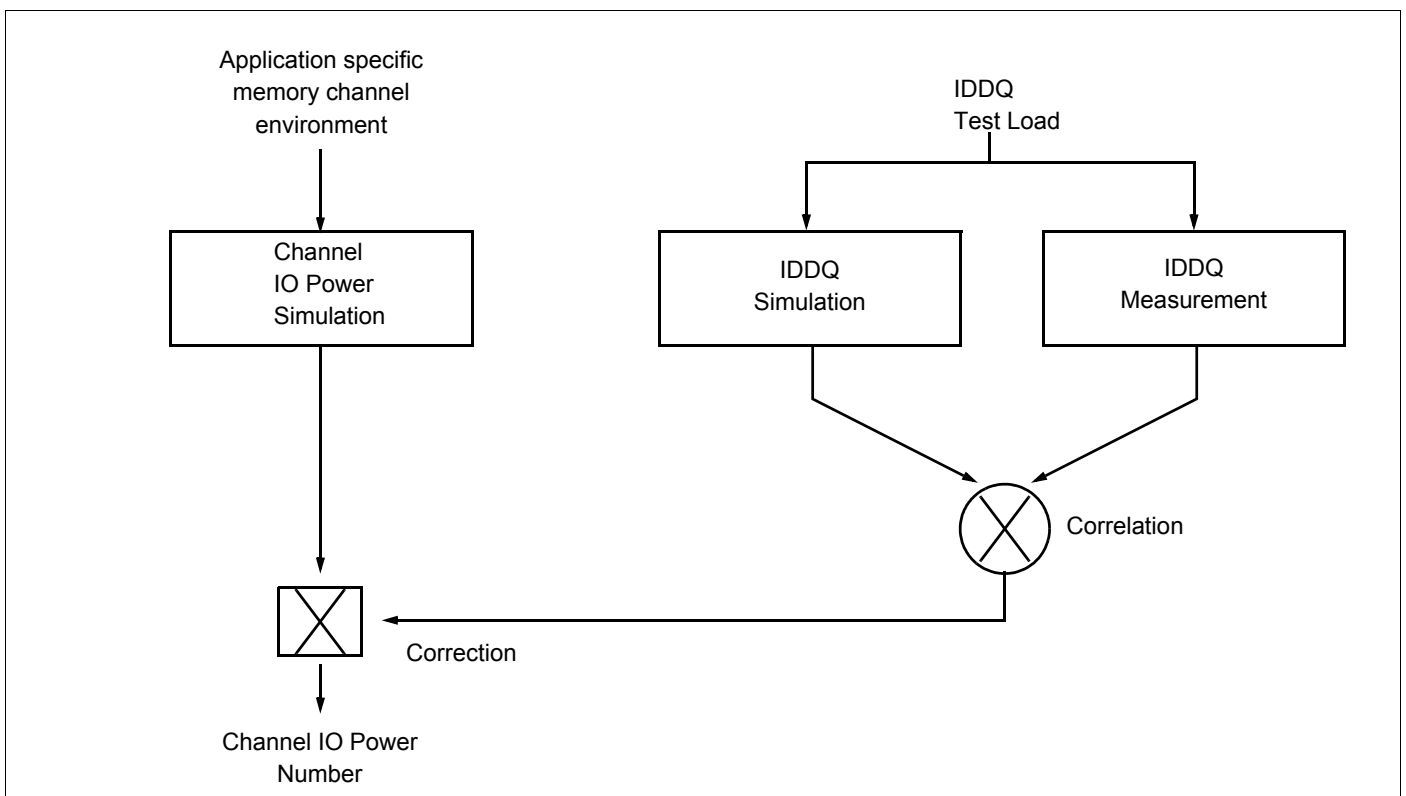

Figure 20 :Correlation from simulated Channel IO Power to actual Channel IO Power supported by IDDQ Measurement.
**Attention :** IDDQ values cannot be directly used to calculate IO power of the DDR3 SDRAM. They can be used to support correlation of simulated IO power to actual IO power as outlined in Figure 20. In DRAM module application, IDDQ cannot be measured separately since  $V_{DD}$  and  $V_{DDQ}$  are using one merged-power layer in Module PCB.